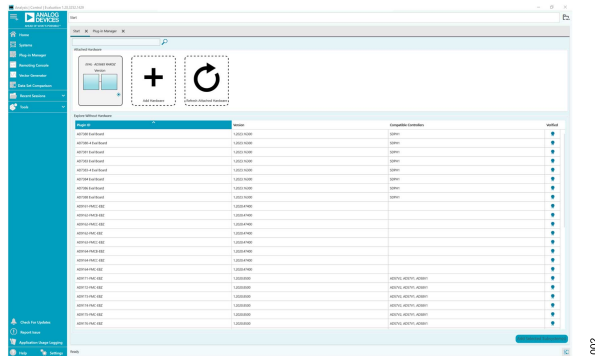

Figure 2. ACE Software Main Window
2. Run the ACE software, and the main window appears as shown in Figure 2. The EVAL-AD5683RARDZ or EVAL-AD5693RARDZ board plugins appear in the **Attached Hardware** section of the **Start** tab.